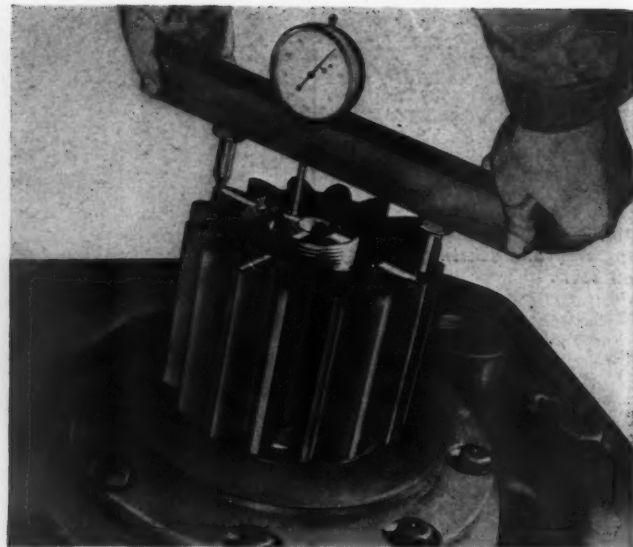

Fig. 6—Method of using a pinion advance gage
2. Spot the cold pinion on the shaft by hand and set the pinion advance gage at zero, as shown in Fig. 6. Chalk mark the pinion and shaft so that you can replace the pinion in the same position.